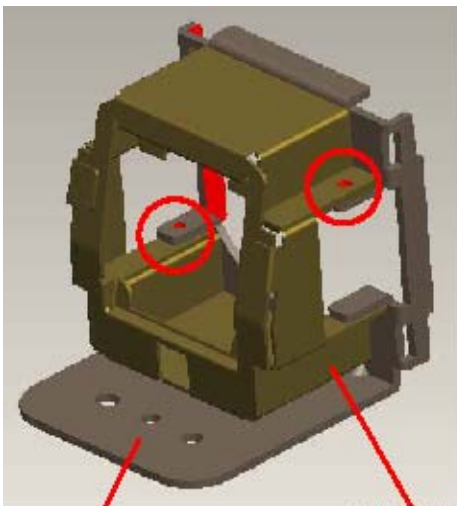

Figure 1-1 Baffle Lamp
I. Assemble “Baffle lamp” with Lamp holder and align screw holes with holder first. (Figure 1-1)。